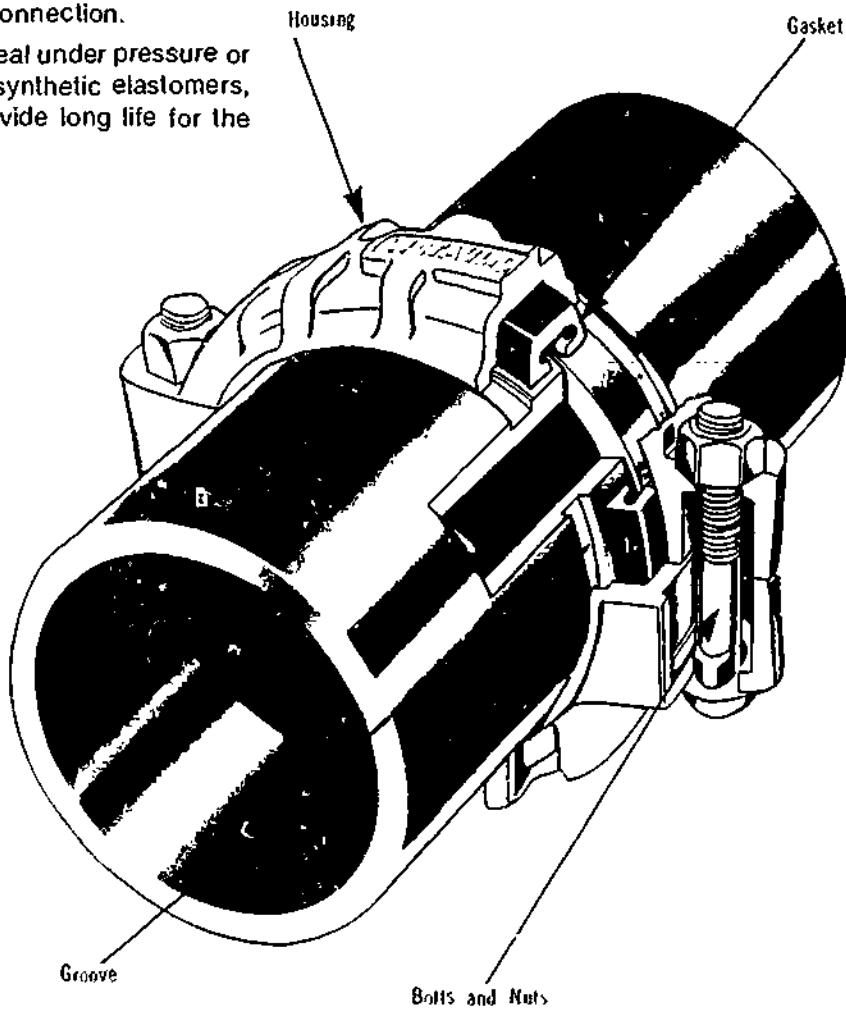

Figure 13-1. Cutaway View of Victaulic Grooved Piping Method
- a) Victaulic grooved piping is a method of joining pipe for a wide variety of piping services. It offers the advantages of easy handling and assembly. The Victaulic method provides expansion, flexibility, and vibration reduction with a union at each joint. It can be applied to black or galvanized steel, stainless, aluminum, wrought iron, plastic — almost any pipe of NPS dimensions (See Figure 13-1)